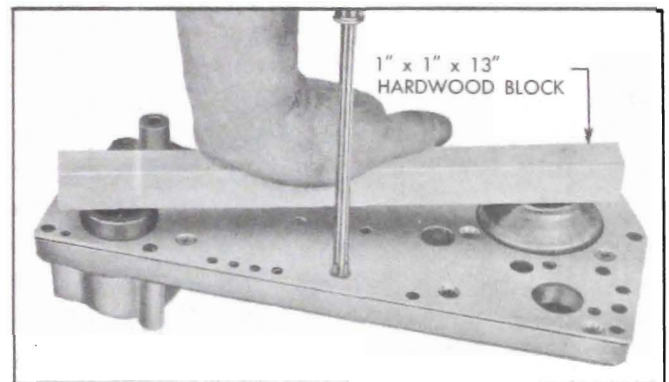

Figure 5-61—Removing Servo Body Spacer Plate
2. Remove servo body spacer plate attaching screw at reverse servo which is in line with the low servo then place a 1"x1"x13" wooden block across the low and reverse servo spring seats. See figure 5-61.
4. Install a new spacer plate gasket and place spacer plate in position over spring seats. Place a 1"x1"x13" wooden block across spring seats to compress the springs while installing the spacer plate screws (fig. 5-61). Tighten screws uniformly to avoid distorting spacer plate.